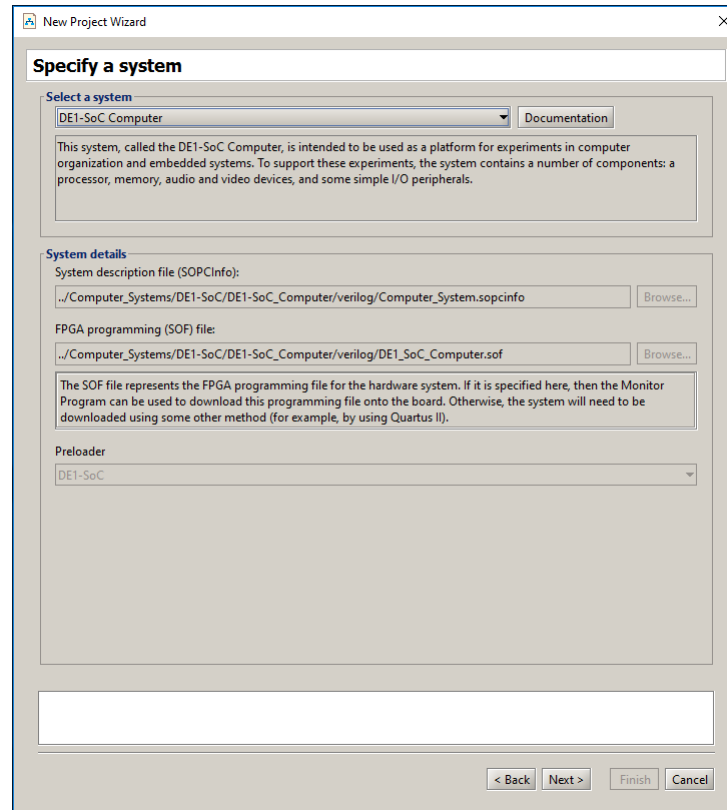

Figure 6. Specifying the desired hardware system.
2. Click **Next** to advance to the window shown in Figure 6, which is used to specify a particular system. A hardware system to be implemented on the FPGA board is usually generated by using Quartus's Platform Designer tool. Information about creating systems using Platform Designer can be found in the *Introduction to the Intel Platform Designer Tool* tutorial, which is available in the University Program section of Intel's website.
In the top right corner of Figure 6 there is a **Documentation** button. Clicking on this button opens a user guide that provides all information needed for developing Nios II programs for the DE1-SoC Computer, such as the memory map for addressing all of the I/O devices in the system. This file can also be accessed at a later time by using the command **Settings > System Settings** and then clicking on the **Documentation** button.